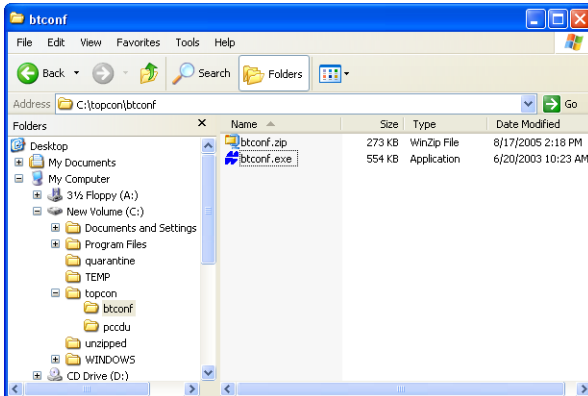

Figure 2-4. Extract Program and Create Shortcut
4. Optionally, create a shortcut on the computer's desktop for quick access to BTCONF (Figure 2-4).